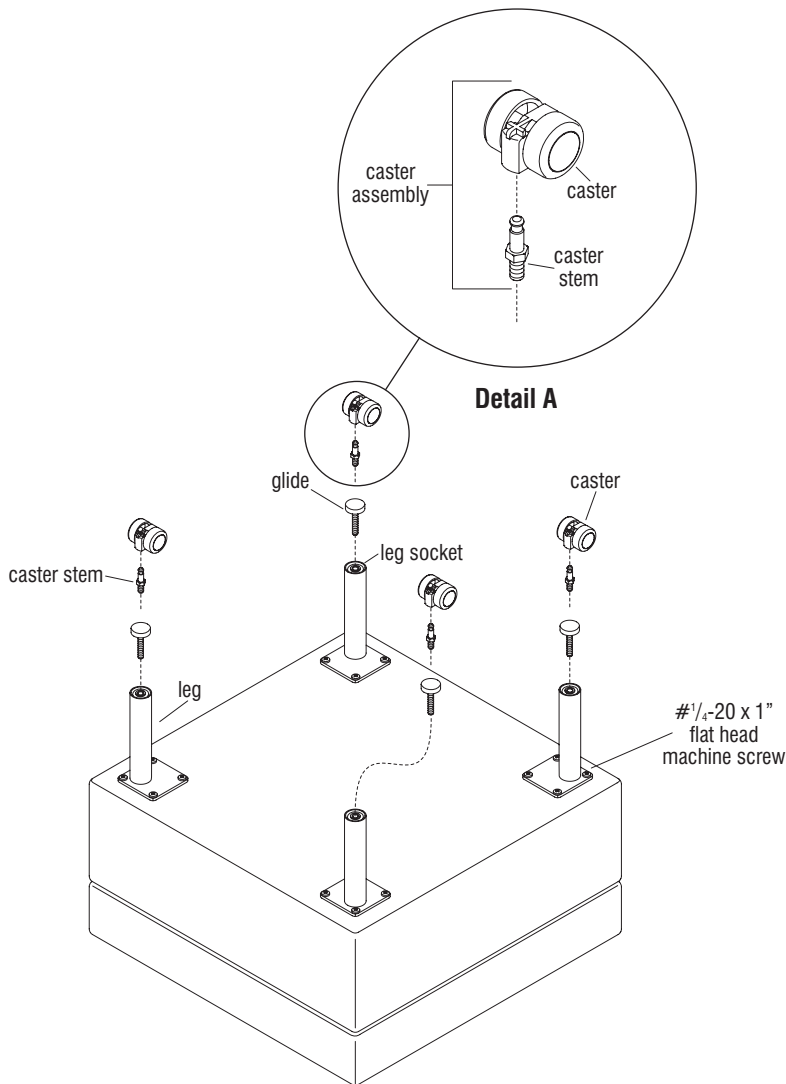

Figure 1
1. Carefully turn seating unit upside down onto a soft protective surface (Figure 1).
1. Grasp the caster and pull back using some force. The caster should release from the stem and the stem should be undamaged (Figure 1 & Detail A).
2. Install a new caster by pressing it onto the exposed stem. A little bit of pressure may be required to get the caster to seat (Figure 1 & Detail A).
1. To replace a caster stem, remove the caster as described in step 1 under Caster Replacement. Then, using the 12mm open end wrench, unscrew the stem from the leg socket (Figure 1 & Detail A).
2. Take the new stem and thread it into the leg socket. Then, press on the same caster removed in the beginning. A little bit of pressure may be required to get the caster to seat (Figure 1 & Detail A).
1. To replace a caster assembly (which includes the caster and caster stem), take the 12mm open end wrench and unscrew the caster assembly from the leg socket (Figure 1 & Detail A).
2. The new replacement parts will come separately as a caster and caster stem. Take the new supplied caster stem and thread it into the leg socket. Then take the new caster and press it onto the caster stem. A little bit of pressure may be required to get the caster to seat (Figure 1 & Detail A).
1. Grasp the glide and unscrew the glide from the leg socket. If the glide is difficult to turn by hand, use the locking pliers to unscrew (Figure 1).